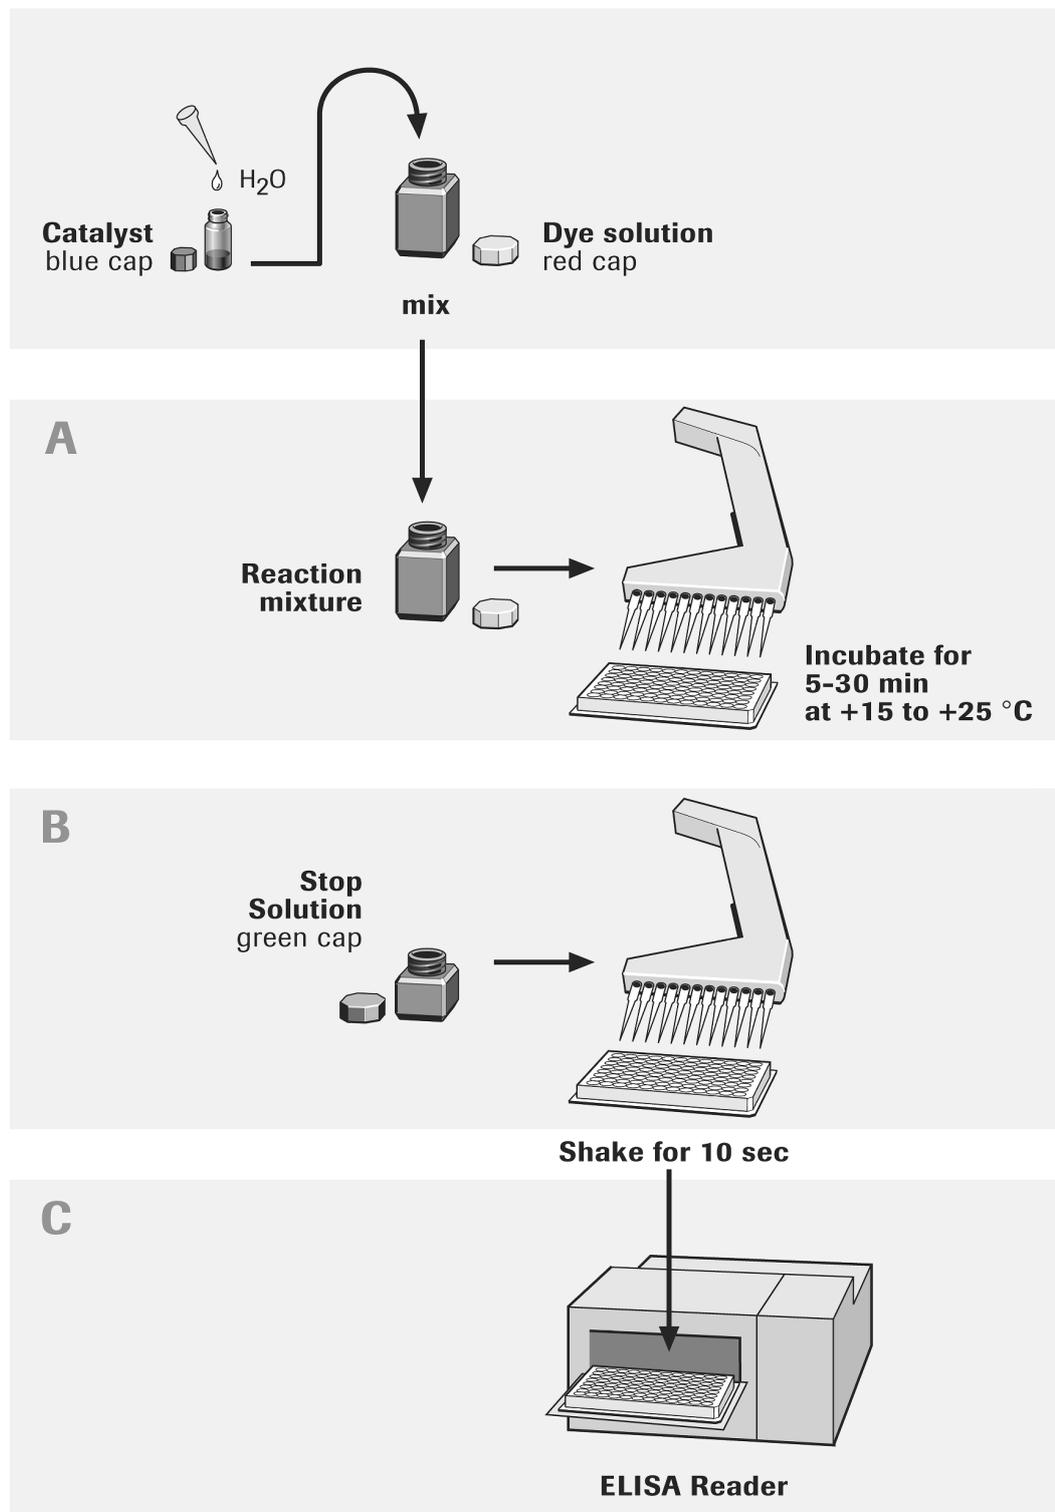

Fig. 3: Overview of protocol.
For an overview of the procedure, see Figure 3.
- ⚠ Protect the microplate from light during this incubation period, see Figure 3, A.**
- Shake the plate for 10 seconds, see **Figure 3, B**.
- ⚠ Use a reference wavelength of >600 nm, see Figure 3, C.**
7 To determine the LDH activity, add 100 μ l freshly prepared Reaction mixture to each well on the 96-well plate, and incubate for up to 30 minutes at +15 to +25°C, see **Figure 3, A**.
8 Add 50 μ l Stop solution to each well on the 96-well plate, see **Figure 3, B**.
9 Measure the absorbance of the samples at 490 or 492 nm according to the available filters using an ELISA reader, see **Figure 3, C**.
- 7 To determine the LDH activity, add 100 µl freshly prepared Reaction mixture to each well and incubate for up to 30 minutes at +15 to +25°C, see **Figure 3, A**.
- 9 Measure the absorbance of the samples at 490 or 492 nm according to the available filters using an ELISA reader, see **Figure 3, C**.